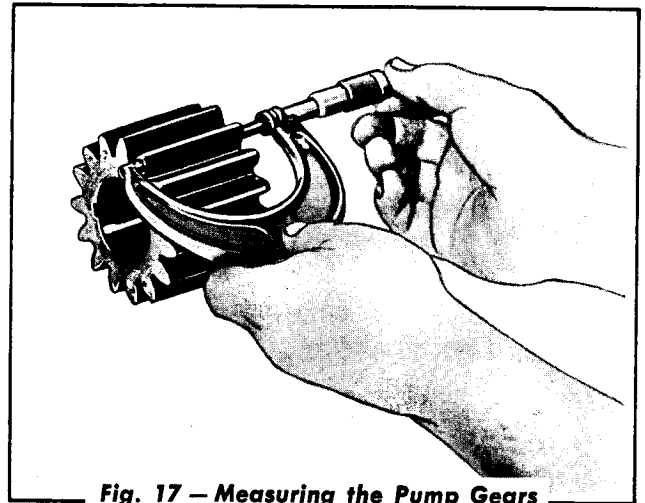

Fig. 17 – Measuring the Pump Gears
2. Measure the gears and the gear housing as in Figures 17 and 18. Make note of the dimensions for the installation of the proper quantity of .002 inch thick brass shims only for .0035 to .0055 inch running clearance.